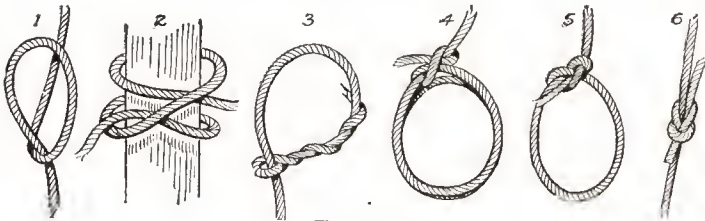

FIG. 60
**Tying Rope Knots:** A knowledge of the tying of knots is indispensable in the handling a swing stage or roping a scaffold to best advantage. There are hundreds of knots, hitehes and bends, possibly twenty that are commonly used. Of these the Baekwall hiteh for making the running part of a tackle fast to the hook; the Clove hiteh, for making a rope end fast or turning a tight double-strength eye in the bight (the loop) of a rope; the Timber Hitch, for making a rope end fast to a plank or timber for hoisting or lowering; the Square, or Reef Knot, for uniting two rope ends; the Bowline, for making an eye that will not run; the Round-turn and two half hitehes, for making a rope end fast to and lead from any part of anything with a large diameter; and the proper use of half hitehes, are all knots which are peculiarly adapted to uses of the painter. These knots are all easy to tie, will not jam tight under strain and therefore are easy to loosen. There are others, but the man who masters these will be able to take care of himself in any situation. See Figure 60.